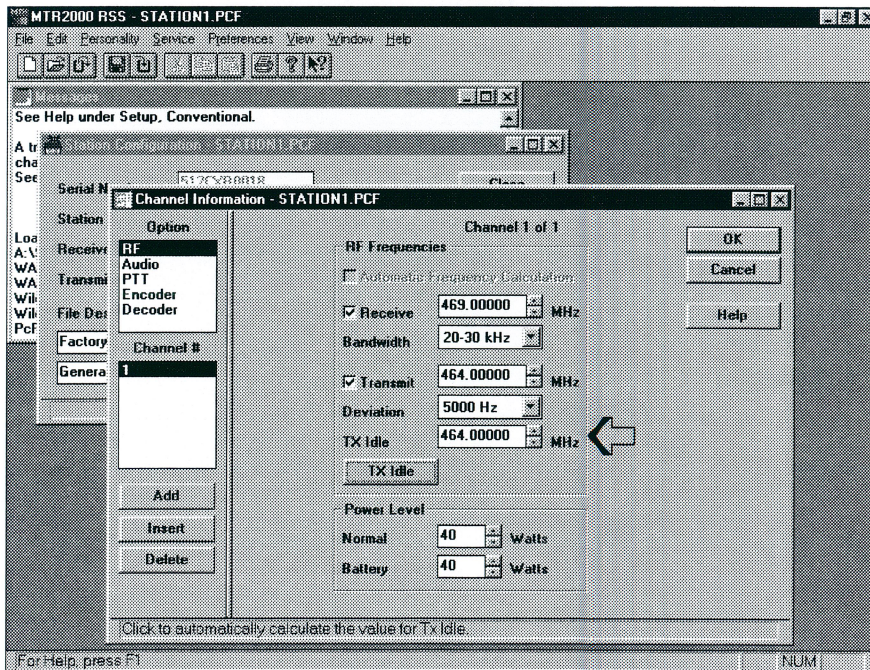

Fig. 4
8. Click on **Personality**, and click on **Channel Information**. A window, as in Fig. 4, will appear. Make sure that the **TX Idle** frequency is the same as the **Transmit** frequency. Re-enter the frequency if necessary.